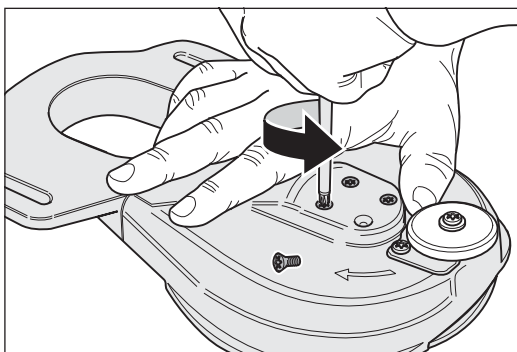

Fig. 42 Remove the four fixing screws of the complete sanding plate.
- 9 Use the universal spanner to undo the four fixing screws of the complete sanding disc (fig. 42).